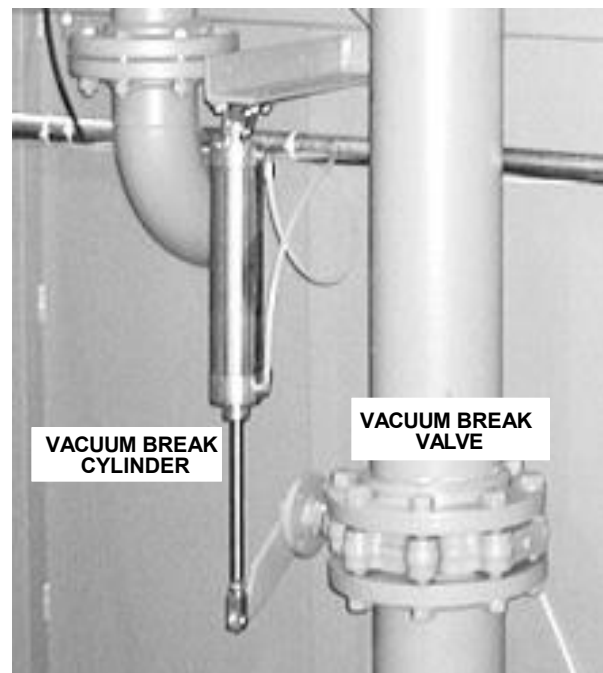

Figure 5. Vacuum Break Valve Adjustment
1. With the system fully operational the vacuum break cylinder should be fully extended, which, in turn, closes the vacuum break valve. If the cylinder retracts when the unit is placed under power, interchange the air lines that power it. (See Figure 5.)